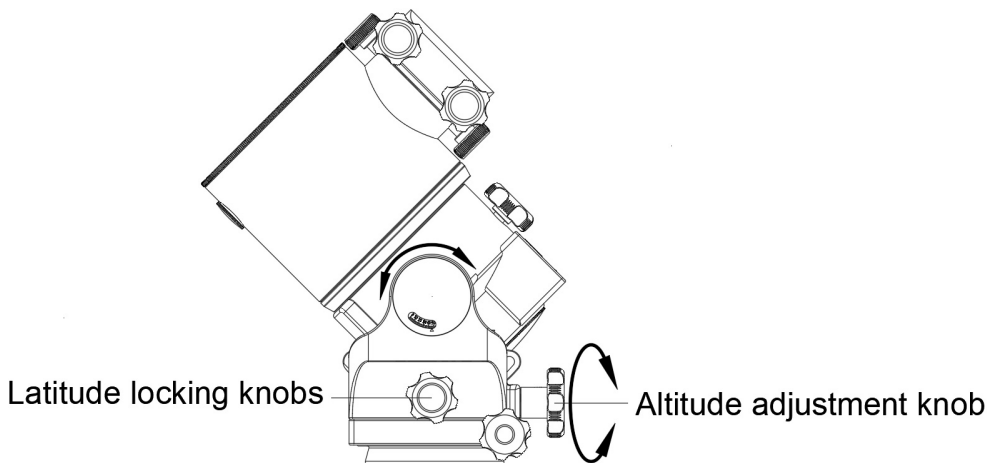

Fig. 2
1.For equatorial (**EQ**) mode, loosen slightly the two Latitude locking knobs and turn the Latitude adjustment knob until the arrow on the latitude scale of the mount matches the latitude of your observing site. Lock the two Latitude locking knobs. See Fig.2.